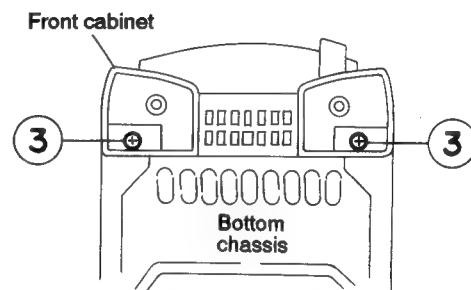

Fig. 5-3
(See Figs. 5-3~5-6)
1. After turning the body upside down, remove the two screws ③ retaining the front cabinet assembly (See Fig. 5-3).